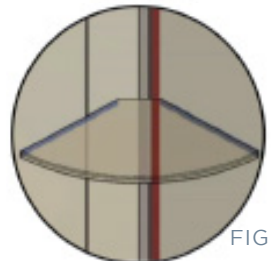

FIG.27
- Remove plastic backing from stabiliser blocks and press firmly onto wall (FIG 27).